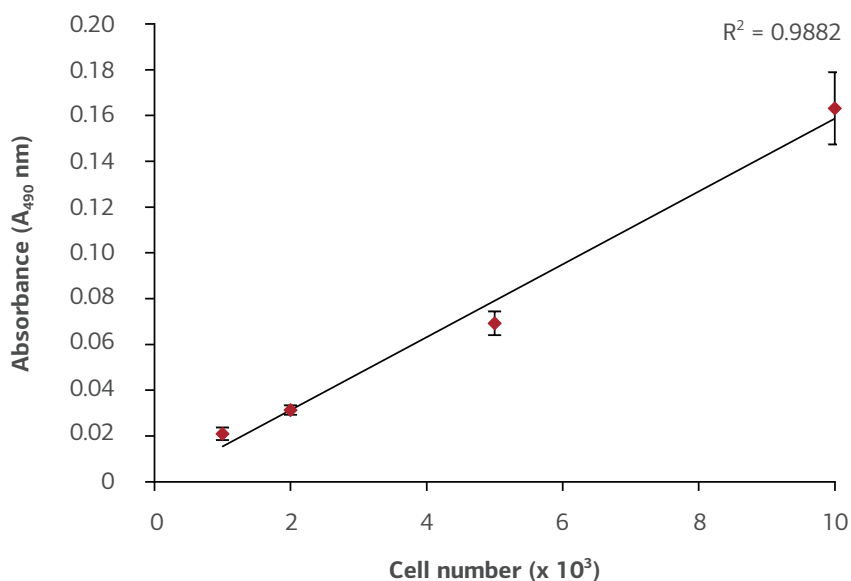

FIGURE 2: Cell number standard curve for PC-3 cells cultured on 384 well plates. n=12 ± SD.
- After 24 hours of culture, a linear MTS assay response with increasing cell number was observed (Fig. 2).